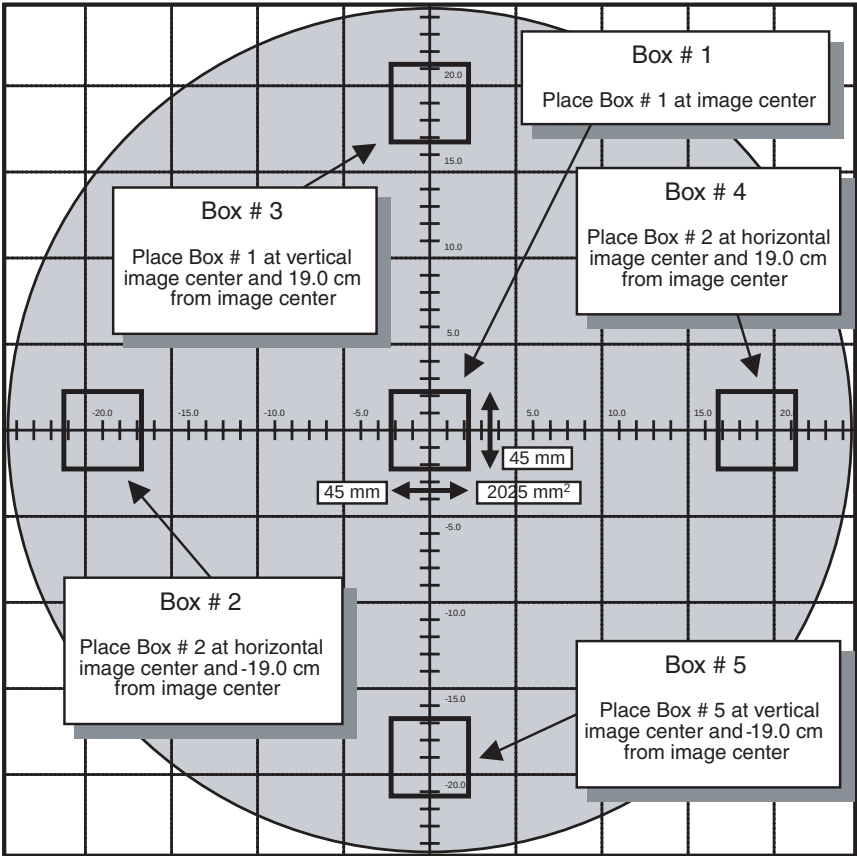

Figure 10-7 48cm Phantom Brightness Uniformity & Noise Measurement – Building Placing Reference ROI Boxes
If required, magnify the image to adjust it to the proper dimensions. (See Figure 10-7 for additional ROI size and placement information.)
If required, magnify the image to adjust to proper dimensions. (See Figure 10-7 for additional ROI placement information.)
- d.) Reposition Box #2 to the left center portion on the first image (Box #2 position in Figure 10-7).
- f.) Repeat steps 3.c. through 3.e. for each of the remaining ROI box positions shown in Figure 10-7 (Box #3 through #5).